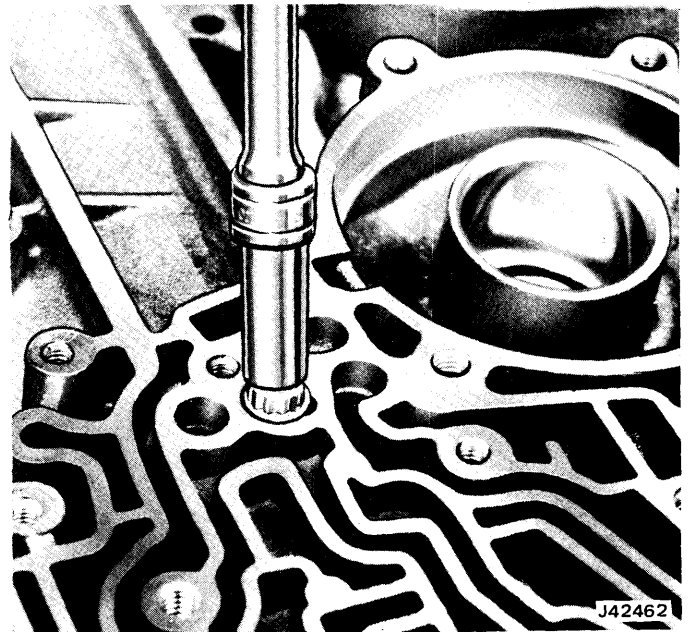
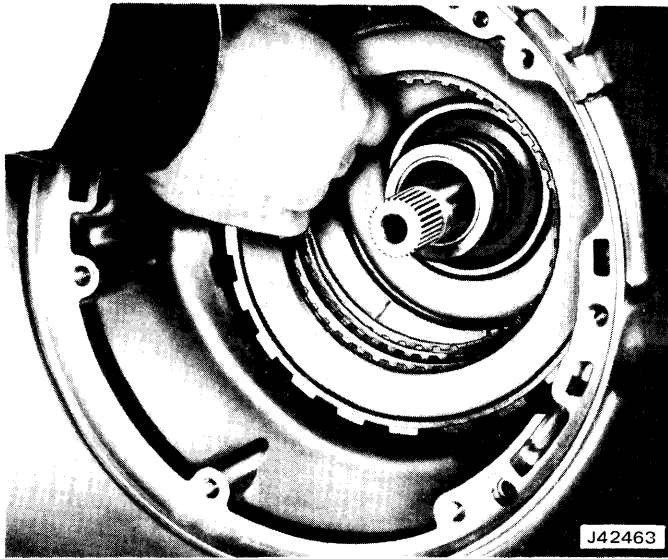

Fig. 7-33 Removing—Installing Center Support Bolt
Fig. 7-34 Removing Intermediate Clutch Plates
- (1) Remove center support-to-case retaining bolt using a 3/8, 12-point, thin wall deep socket (fig. 7-33).
- (2) Remove intermediate clutch backing plate-to-case snap ring.
- (3) Remove intermediate clutch backing plate, three composition clutch plates and three steel clutch plates (fig. 7-34).